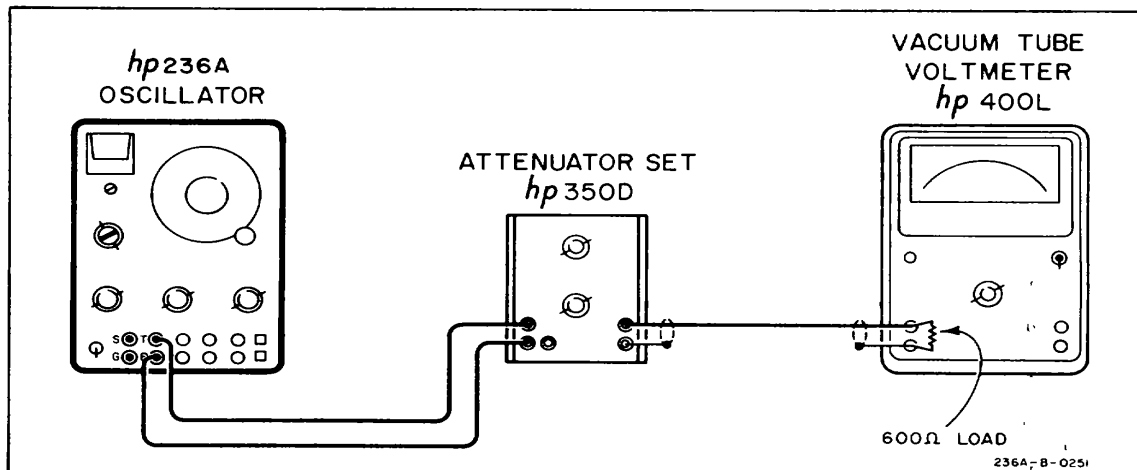

Figure 5-4. Attenuator Accuracy Check
- a. An AC Voltmeter (-hp- Model 400L), a 600 Ohm Attenuator Set with known accuracy (-hp-Model 350D), a 600 ohm 1% load and a pair of test leads 12 inches long with alligator clips and a test lead 44 inches long with dual banana plugs will be required for this test. Figure 5-4 shows the recommended test setup for steps b through h.